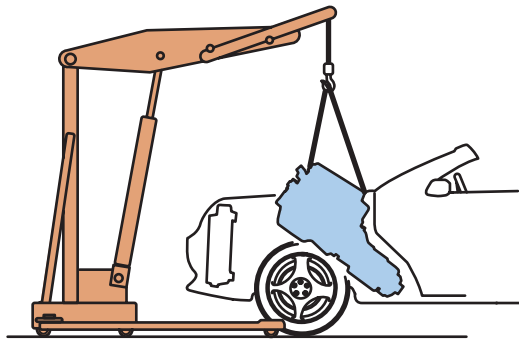

FIGURE 24-3 An engine must be tipped as it is pulled from the chassis.
STEP 4 The front of the engine must come almost straight up as the transmission slides from under the floor pan. The engine and transmission are hoisted free of the automobile, swung clear, and lowered on an open floor area. ● **SEE FIGURE 24-3.**